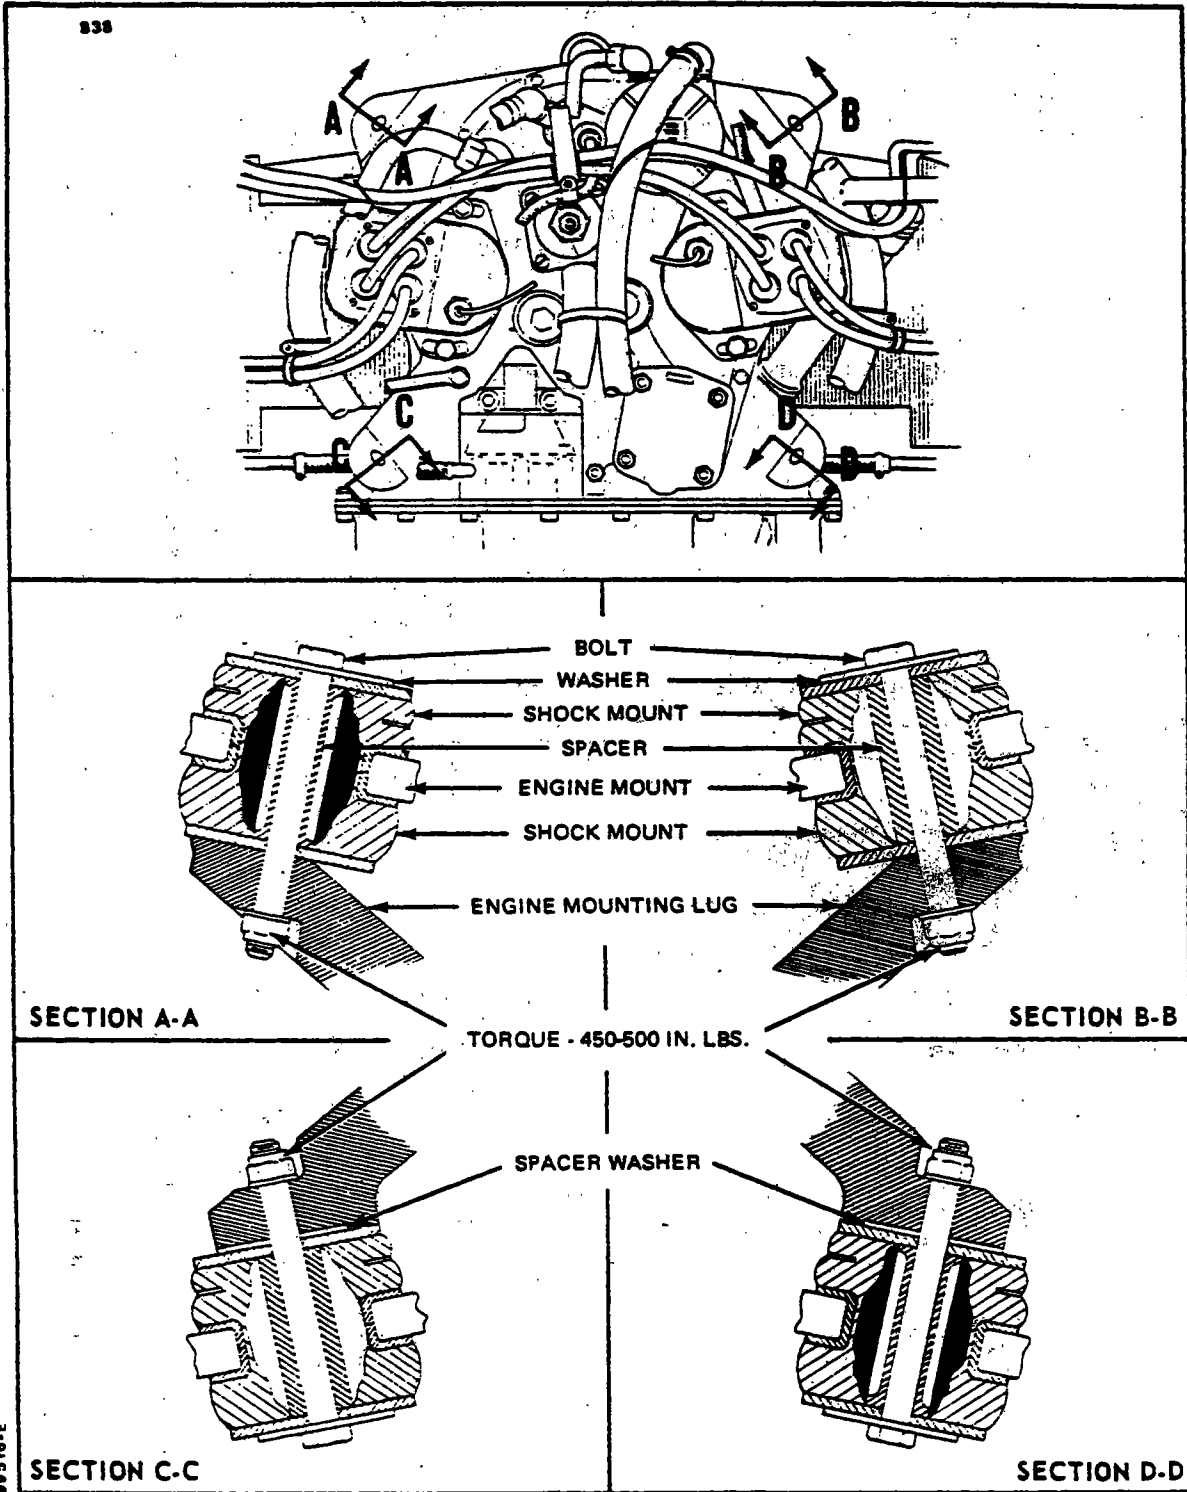

Figure 8-8. Engine Shock Mount Installation (PA-28-140, Serial Nos. 28-25000 and up)
NOTE: On PA-28-140 aircraft with serial numbers 28-25000 and up, refer to paragraph 8-20 and Figure 8-8 for shock mount installation instructions. When using these instructions, step c through e, of paragraph 8-19 may be skipped.
8-20. INSTALLATION OF ENGINE SHOCK MOUNTS. (PA-28-140, Serial Nos. 28-2500 and up.) (Refer to Figure 8-8.)
- a. Assemble the engine shock mounts on the engine mount as shown in Figure 8-8. Note the position of each mount carefully. The upper right and lower left mounts are the same, as are the upper left and lower right.